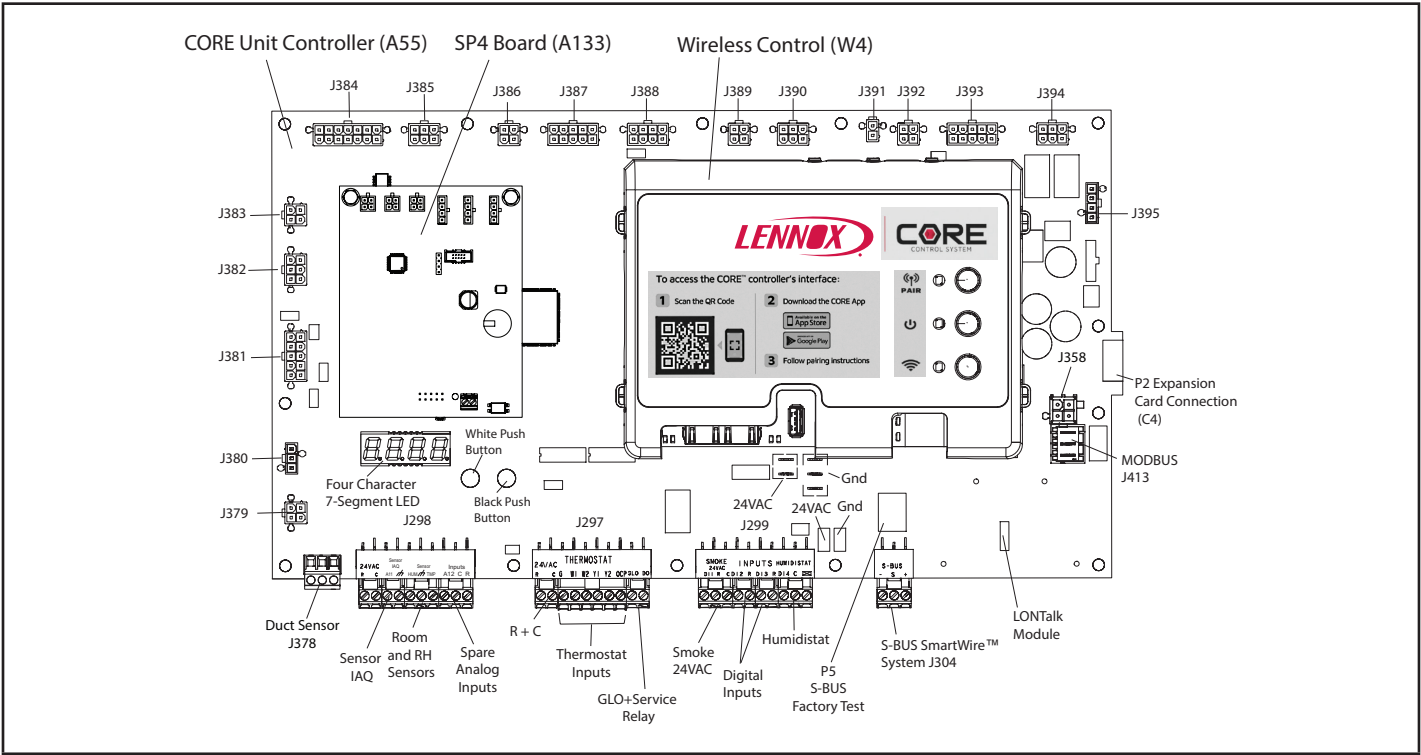

Figure 3
4. Unit Controller A55 (Figure 3)